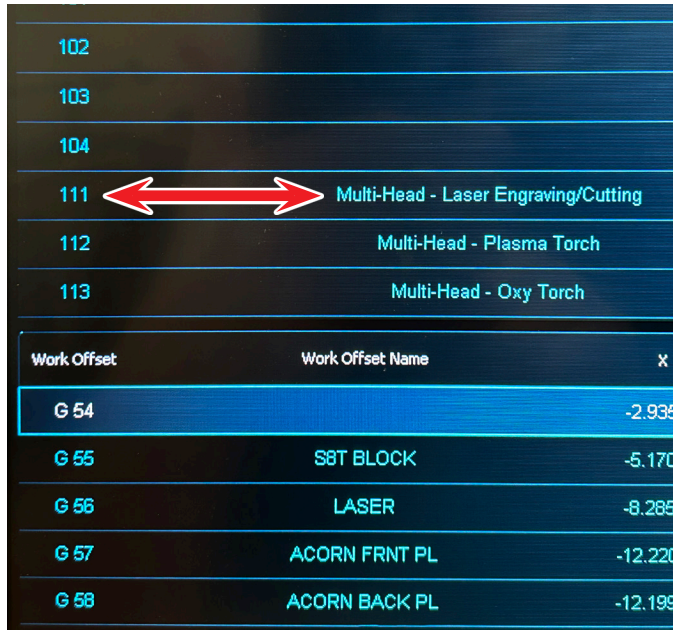

FIGURE 3
- Go to the MDI page and click on MDI CTRL+M. Then enter “T111 M06” to call up the laser. The laser is tool 111 on the tool page (see Figure 3).